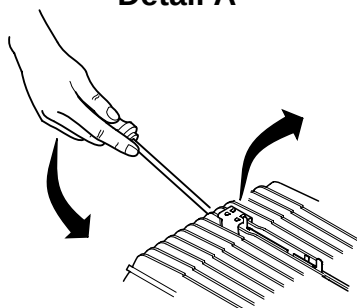

Fig. 902 Change the control unit, overheating sensor and the combustion and hot air blower (drive unit)
When you fit the bottom shell (4), spread it slightly so that the spacers on the overheating sensor (9, fig. 902) are not damaged.
3. Disconnect the plug connections on the control unit (3, Fig. 902).
4. Remove the screws (4).
5. Slide the control unit (3) towards the hot air blower and remove it upwards.
1. Insert the control unit (3, fig. 902) on the combustion and hot air blower (1), push it towards the blower casing and secure it with screws (4).
2. Tighten the screws (4) to 3.0 ± 0.3 Nm.
3. Disconnect plug connection X3 on the control unit (3, fig. 902).
4. Lever the overheating sensor (9) out of the heat exchanger's ribs using a suitable tool (see Detail A).
1. Measure the resistance of the overheating sensor (9, fig. 902) (see 6.3.2).
2. Position the overheating sensor (9) and press it into place by hand.
3. Ensure that the overheating sensor is correctly positioned in the heat exchanger (7).
4. Connect plug connection X3 to the control unit (3).
Replace the drive unit (1, fig. 902) only with a drive unit with the same rating data and the same Part No.
1. Ensure that the sealing surfaces on the combustion and hot air blower (1, fig. 902) and on the heat exchanger (7) are not damaged.
2. Fit a new flat seal (6) on the flange of the combustion and hot air blower (1).
3. Position the combustion and hot air blower (1) into the assembly position and secure it with screws (2).